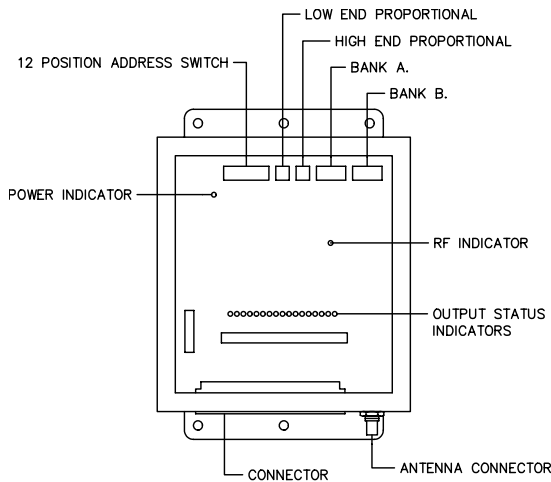

Fig. 11
meet their growing needs. On the receiver board there are two banks of eight dip switches, (refer to fig. 11). Bank "A" controls outputs 1 thru 8. Bank "B" controls outputs 9 thru 16. When switches are in the off position
these outputs will be momentary. Note: momentary switches require constant pressure on transmitter switch to operate each output. If the receiver utilizes standard software, and any switches are in the "ON" position the outputs will be latched. Latch does not require operator to maintain pressure on the transmitter switch to operate, i.e. common ON/OFF function such as turning lights ON and OFF. To change these switches you must remove the receiver enclosure lid. Since receiver is a proportional unit, there are two (2) hex switches which are labeled Low End proportional and High End Proportional. On this style of unit, master control output will be a pulse width modulated (PWM) signal. The Proportional Low End Switch sets the PWM output to the proportional value's low end setting, (see fig.11). The Proportional High End Switch sets the PWM output to the proportional valve's high end setting, (see fig. 11). The independent proportional low